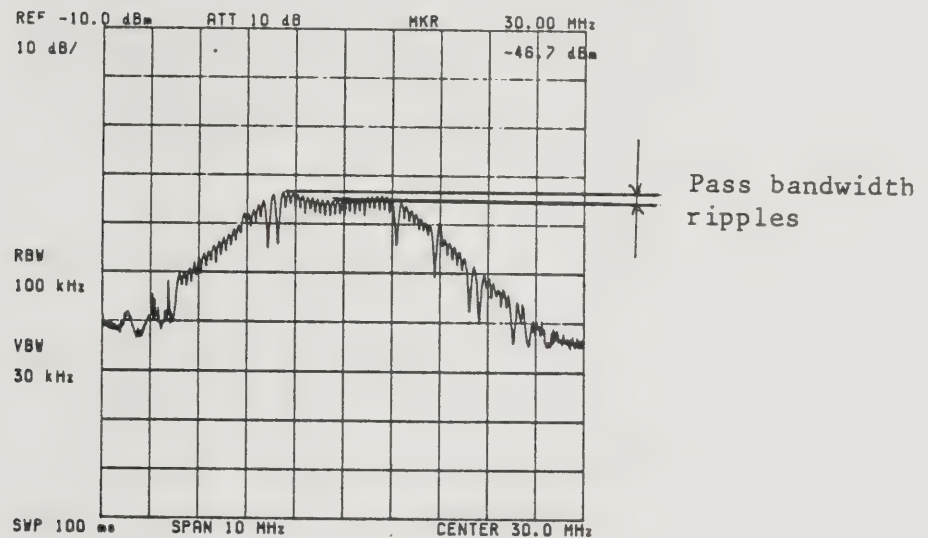

Fig. 11-54 30 MHz B.P.F. (two stages) adjustment
- (c) Press , then change the Step FM setting with the DATA knob. Adjust C310 and C312 so the observed 30 MHz B.P.F. response (two stages) is centered around 30.00 MHz and its maximum level is attained. (See Figure 11-54.) A slight ripple within the pass bandwidth may be ignored.